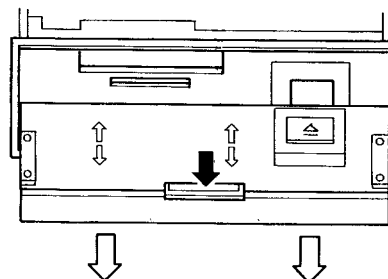

Fig. 4
2. While holding down the lock button, pull the grille assy toward you. (Fig. 4)